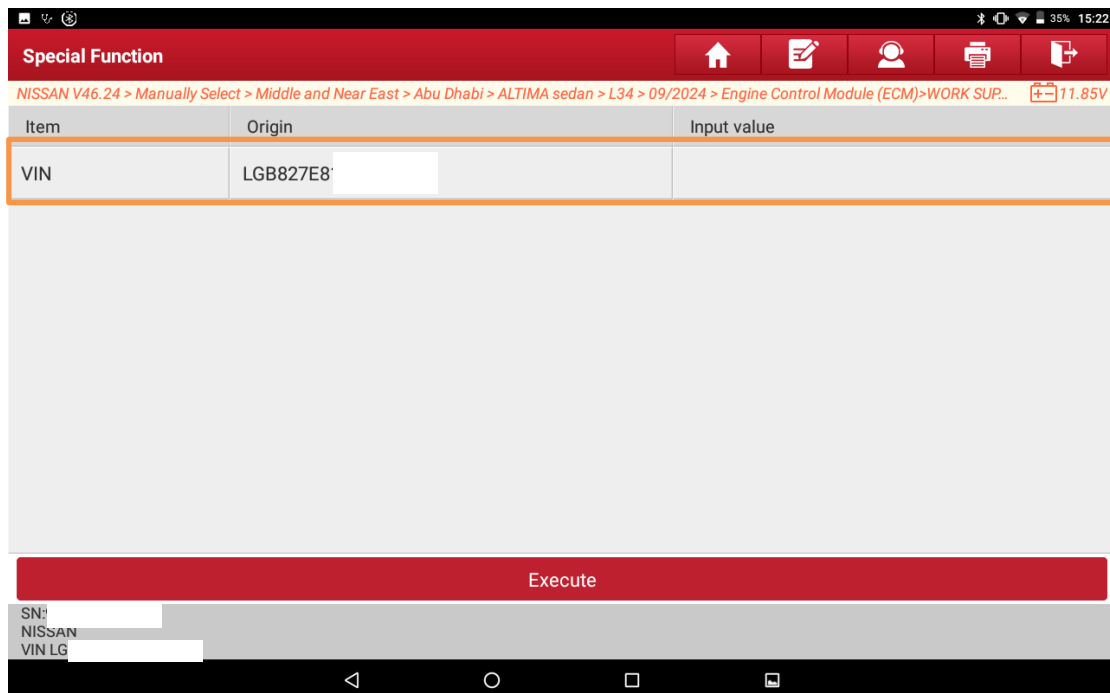
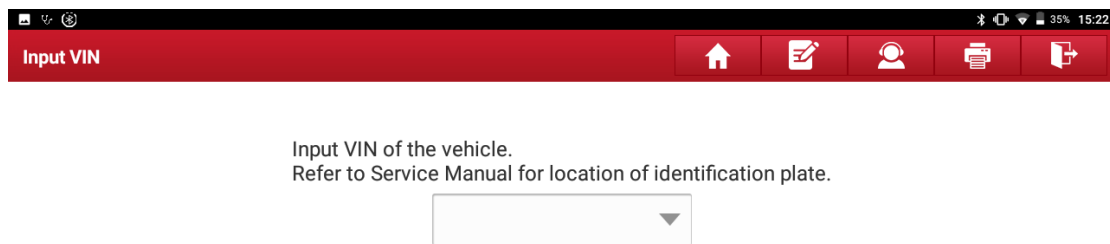

Figure 12
Figure 13
8. As shown in Figure 12, the vehicle's original VIN is displayed on the interface. Click the [VIN] item to enter the interface shown in Figure 13.